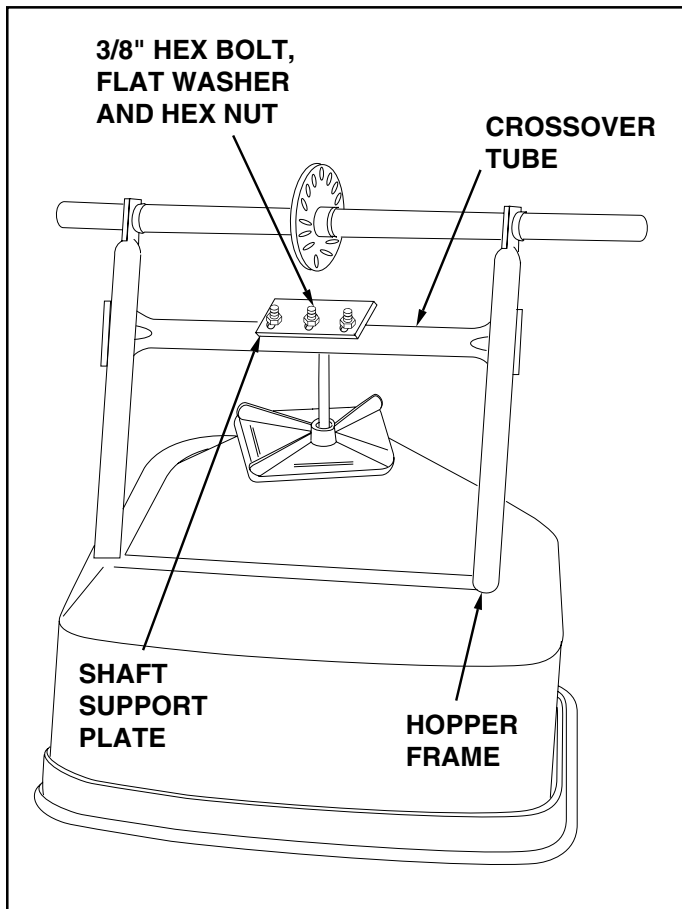

FIGURE 3
2. Turn the spreader upside down as shown in figure 3, so that it rests on the hopper.
3. Remove the 3/8" hex bolt, flat washer and hex lock nut from the center of the crossover tube and shaft support plate. See figure 3.
4. Place the hitch tube up against the crossover tube, align the holes in the hitch tube, crossover tube and shaft support plate, assemble with 3/8" hex bolt, 3/8" flat washer and 3/8" hex lock nut, removed in step 3. See figures 3 and 4. **MAKE ONLY FINGER TIGHT AT THIS TIME.**